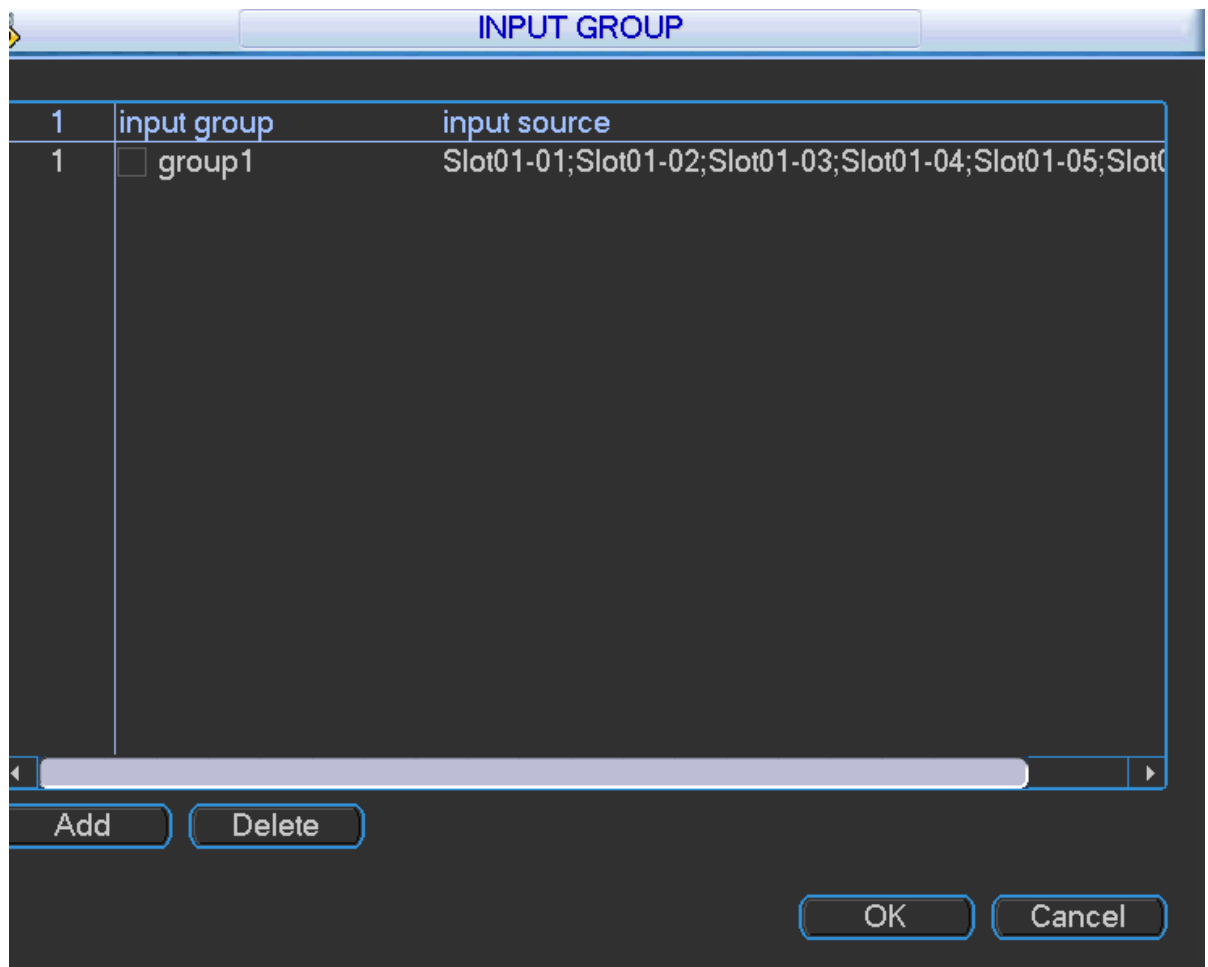

Figure 3-13
- On completion, the system displays Figure 3-13.